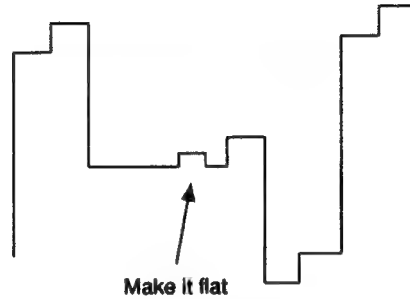

Fig. 5-20
- 5) Adjust **PHASE NTSC 443 NOR** so that the burst section of the output waveform will be straight. (Fig.5-20)